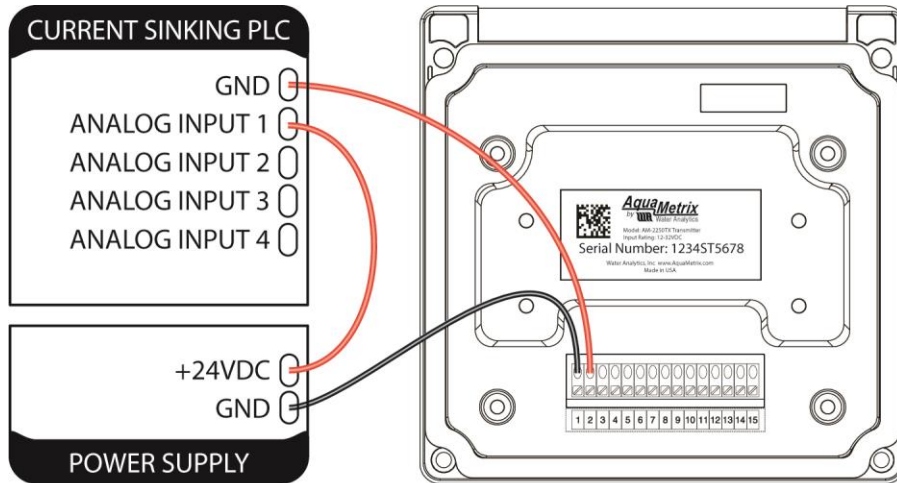
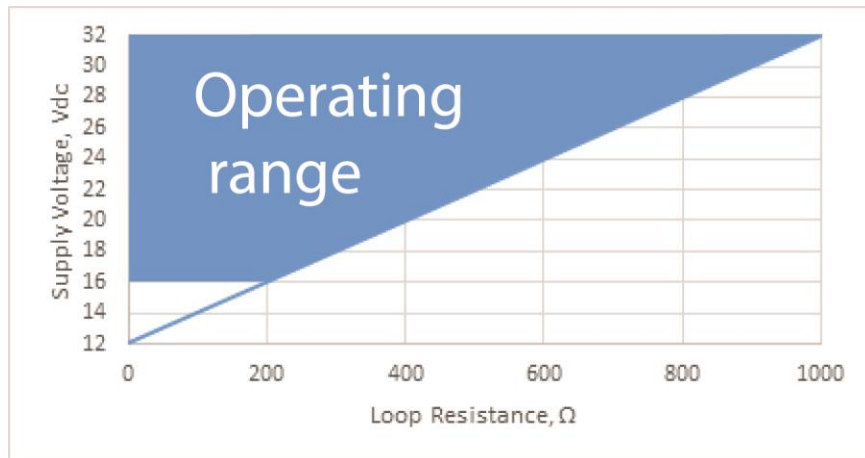

Figure 3-5 AM-2250TX with current sinking PLC
Figure 3-6 Required voltage for power supply for current sinking devices
- The AM-2250TX can be used with a PLC or data logger without internal loop power. Connect the power supply in series, as shown on the right of Figure 3-5. The required power supply voltage will vary depending on the resistance in the PLC or recorder. Figure 3-6 shows the power needed as a function of the PLC loop resistance.